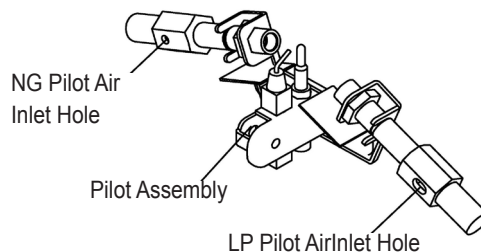

Figure 28 - Pilot Inlet Air Hole
3. Blow air through the ports/slots and holes in the burner. Also clean the pilot assembly. A yellow tip on the pilot flame indicates dust and dirt in the pilot assembly. There is a small pilot air inlet hole about two inches from where the pilot flame comes out of the pilot assembly (see Figure 28). With the unit off, lightly blow air through the air inlet hole. You may blow through a drinking straw if compressed air is not available.